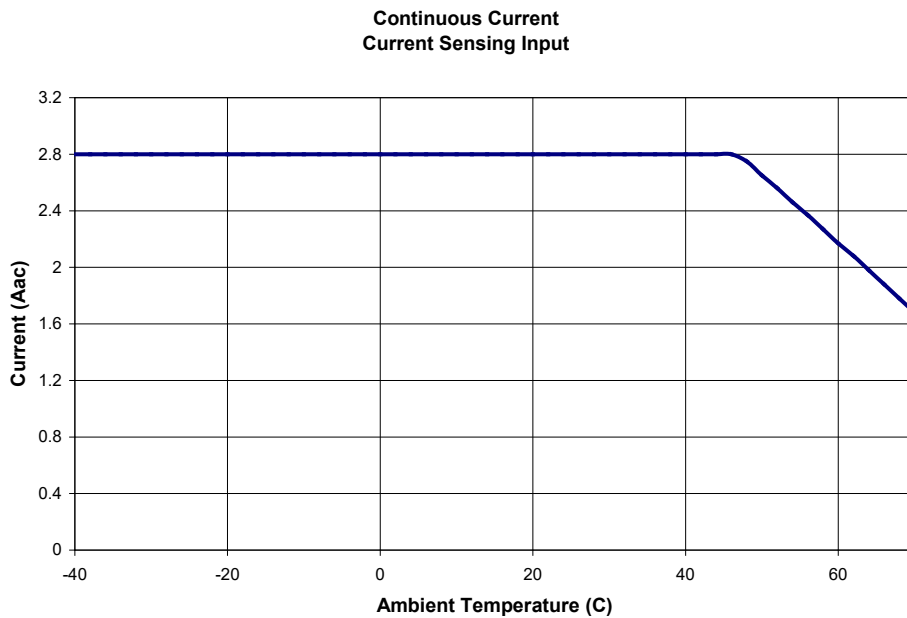

Figure 6-2. Current Sensing Input Derating Curve (BE1-50/51B-236)
* Continuous rating is 2.8 Aac for temperatures up to 45°C. See Figure 6-2 for derating curve.